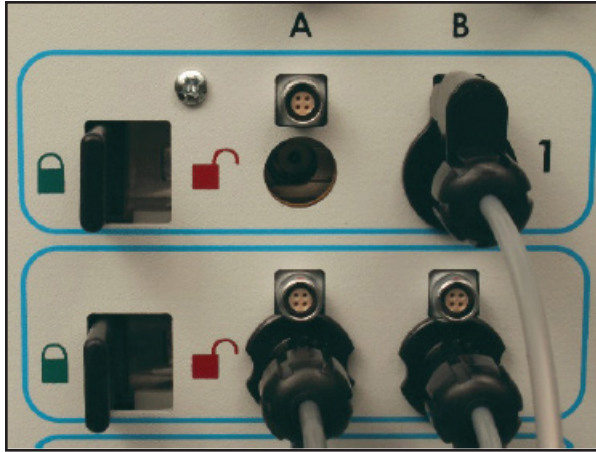

Figure 9. Locking Needle into Channel
4. After a needle(s) is inserted into the desired channel, lock the channel by sliding the locking bar away from the center of the system (Figure 9).